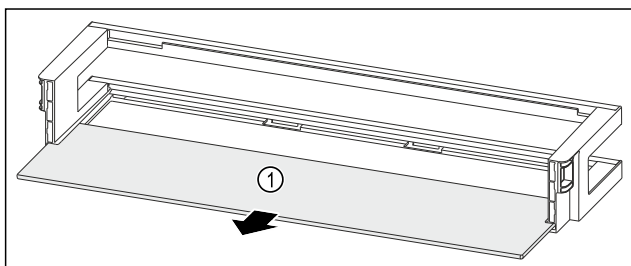

Fig. 227 Door rack with shelf
- ▶ Remove the shelf Fig. 227 (1).